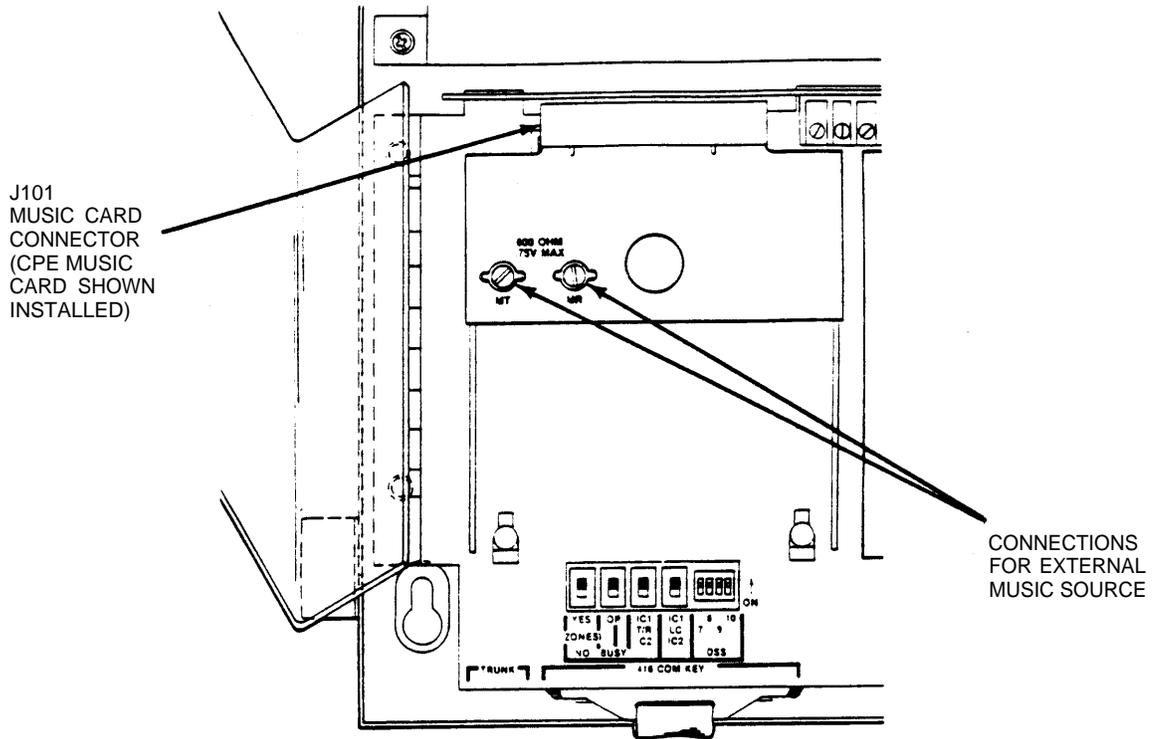

Figure 1-3. CPE Music Card Installed
- **J101** - Card connector which accepts optional plug-in FM tuner card. A Customer Provided Equipment (CPE) music card (Figure 1-3) is already installed in J101. This card allows background music to be provided from an external source, such as a Hi Fi or radio, when the FM tuner card is not used.
If background music is provided from an external source (Hi Fi, etc.), connect the wires from this music source to terminals MT and MR on the CPE music card (Figure 1-3); the order of connection is not important. The input signal from the external source must be dry (no DC voltage), 600-ohm, balanced, and 0 dBm (0.776V max.).
Note: Terminal block TB1 (Figure 1-3) is a quick-disconnect type. To connect a wire to TB1, strip insulation back approximately ¼-inch, press applicable terminal latch, and insert wire. Either the upper or lower terminals, or both, at each position may be used.